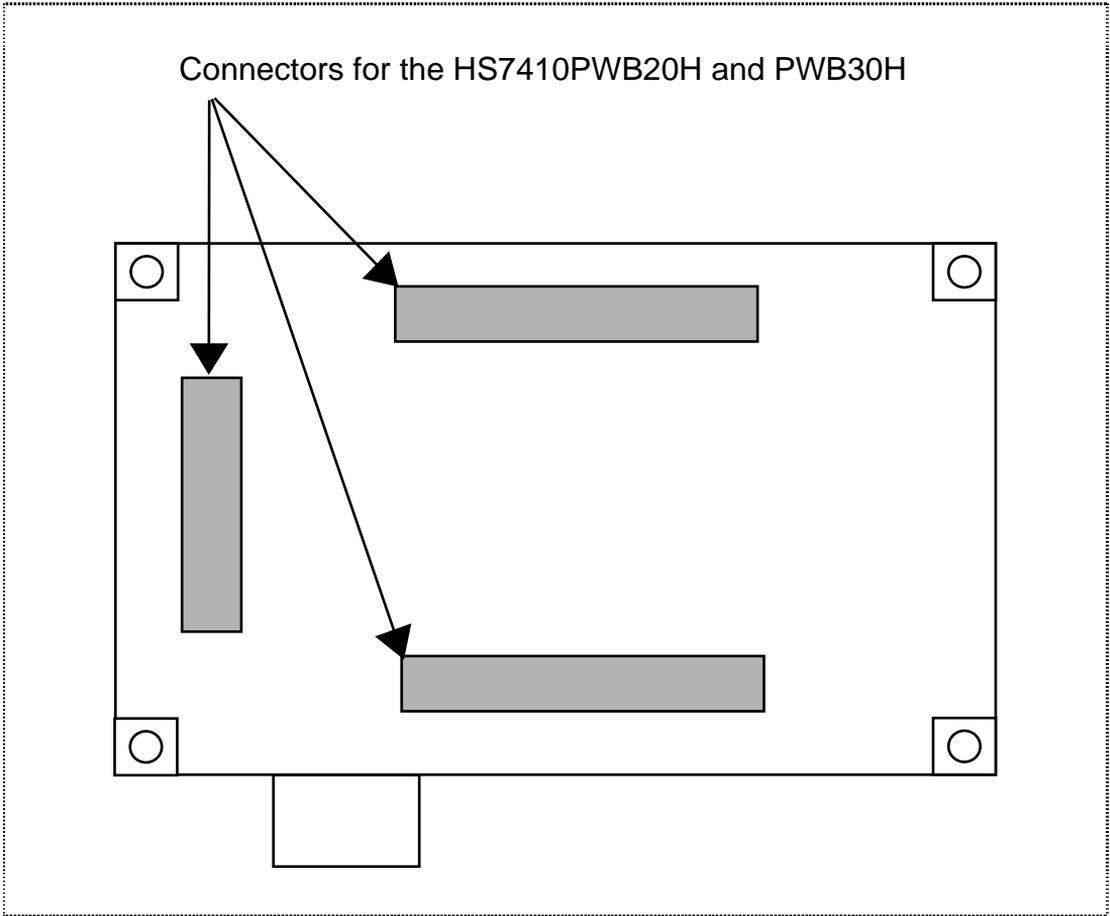

Figure 3.2 Top View of the PWB30H
1. At shipment, the HS7410PWB20H and HS7729PWB30H are connected to each other (HS7729EBH81H). The HS7410PWB20H and HS7709APWB30H are connected to each other (HS7709AEBH81H). These are referred to as PWB30H. Before connecting the EV-chip board to the user system, separate the HS7410PWB20H from the PWB30H. The HS7410PWB20H is connected to the PWB30H through three connectors as shown in figure 3.2.